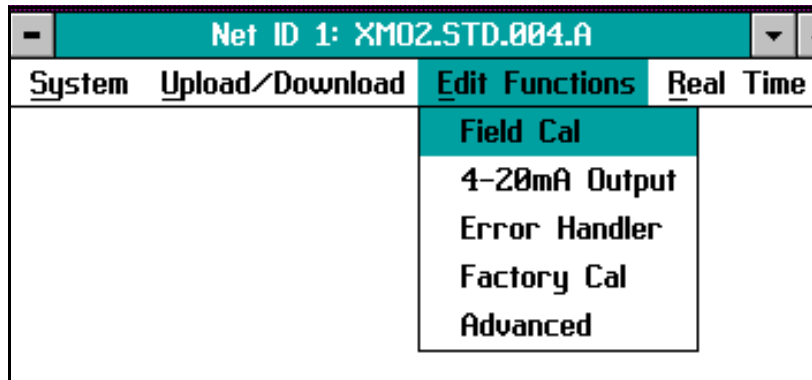

Figure 13: *Field Cal* Window
3. Click on the *Field Cal* option. In the *Field Cal* window (shown in *Figure 13 on page 31*), click on the *Configure Cal* button.
The following three buttons appear at the right of all menu windows (see *Figure 13* on page 31):
When you select the *Field Cal* option, a window similar to the one in *Figure 13* below opens.
Note: *Clicking on the Next Item/Enter button selects the option listed on the status line above the option buttons (Perform Cal in Figure 13 above). The option listed on the status line in any window is the option that was chosen the last time that menu was used.*